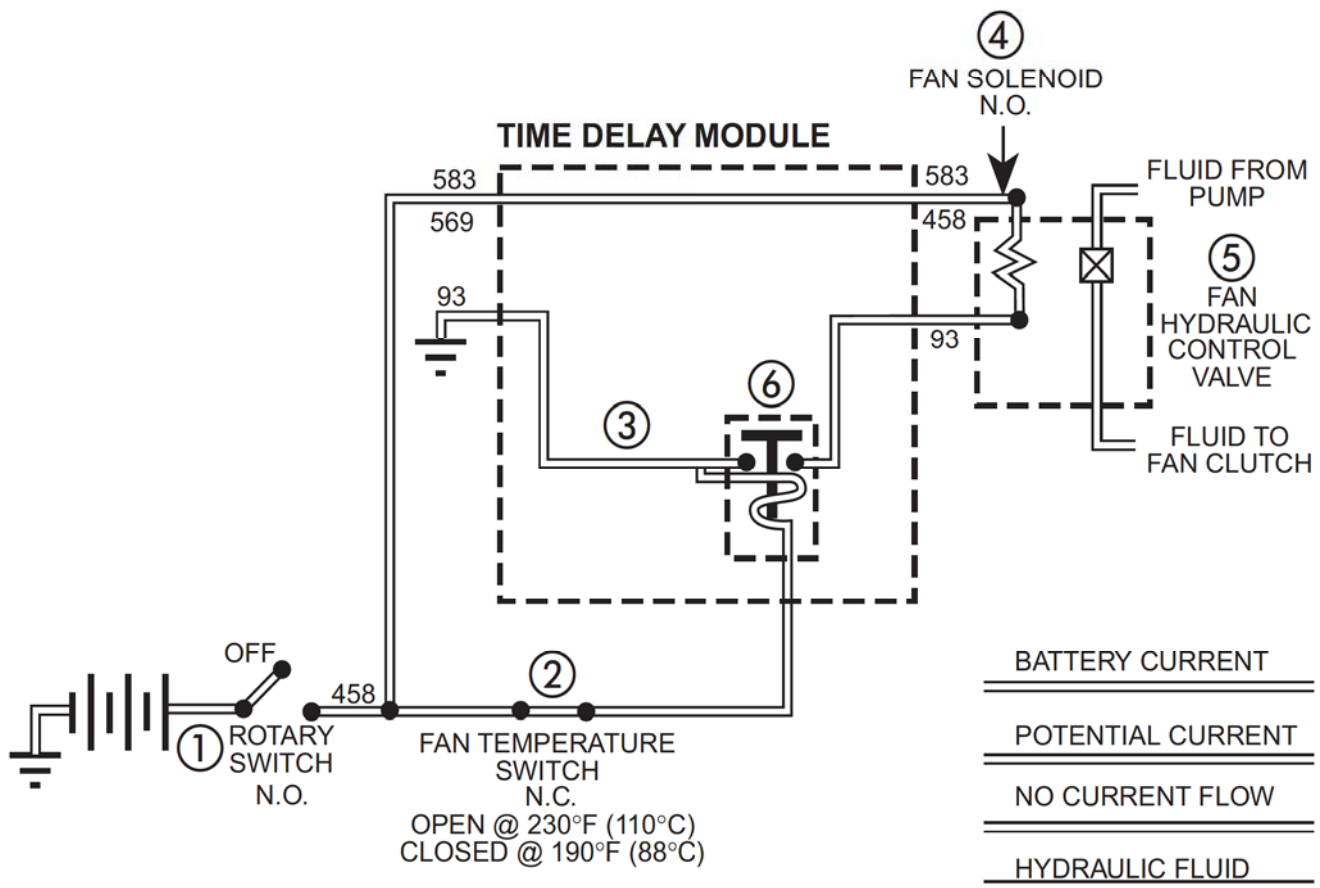

Figure 13-1. Fan Temperature Switch Closed
(Figure 13-1).
**Engine Not Running (Figure 13-1)**